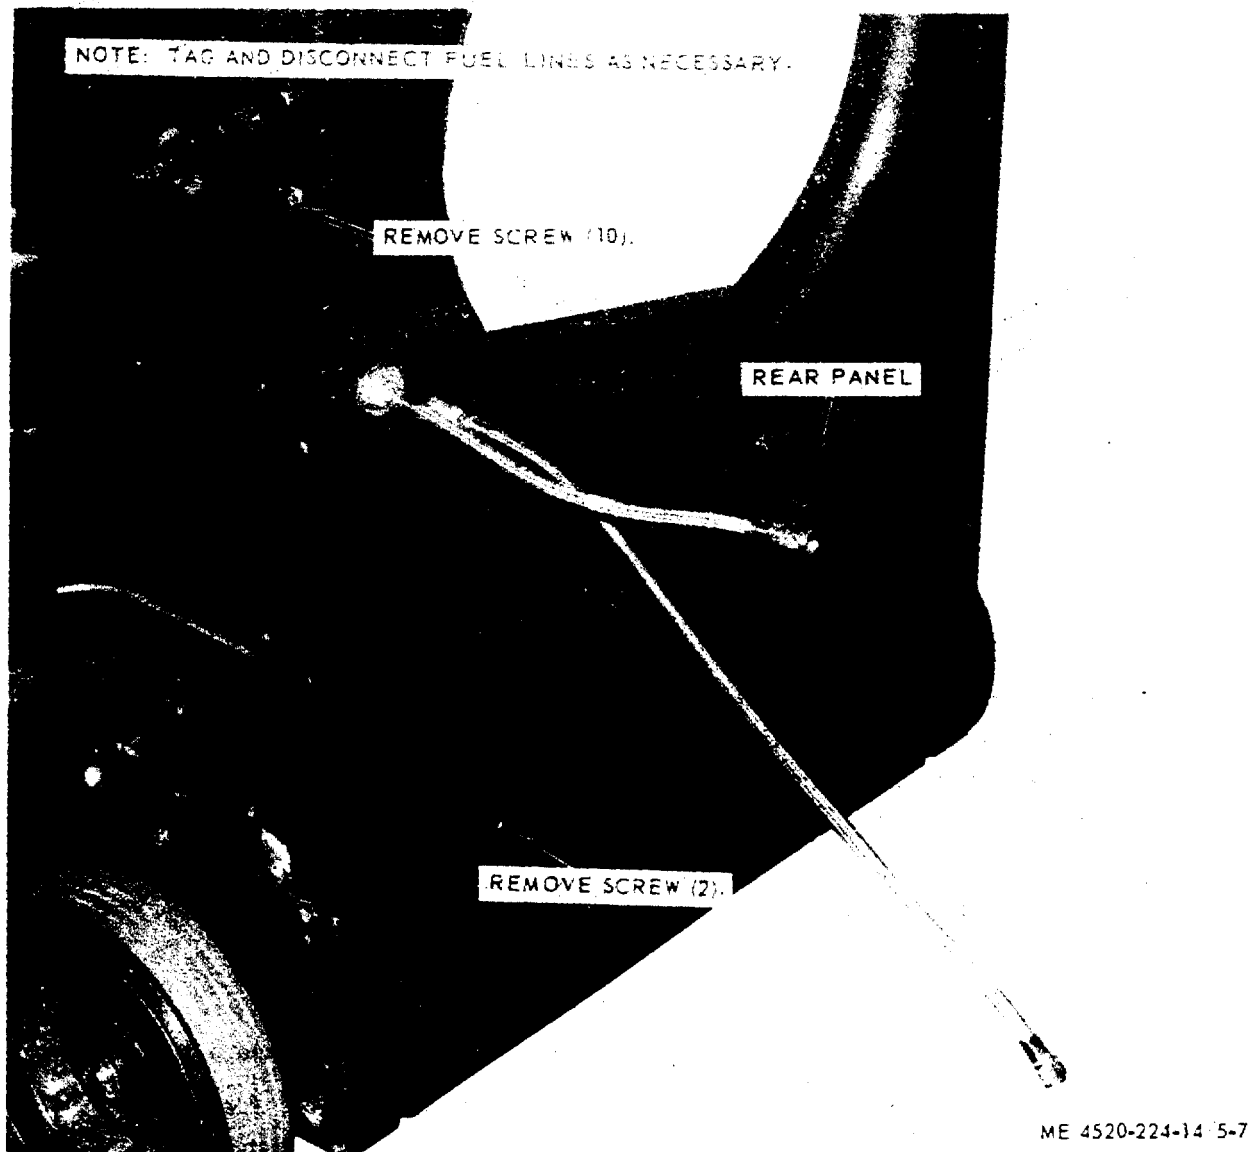

Figure 5-7. Rear panel, removal and installation.
a. *Removal* Refer to figure 5-7 for removal of rear panel.
d. *Installation.* Reattach rear panel per figure 5-7.